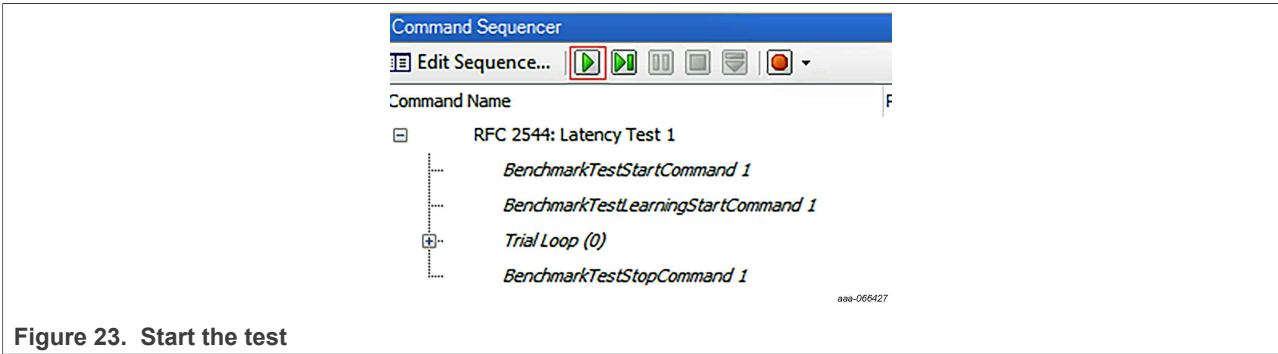

Figure 23. Start the test
9. After clicking the finish button, RFC 2544 test for this test case is created as given in Figure 23. To start the test, click the 'start sequencer' button.